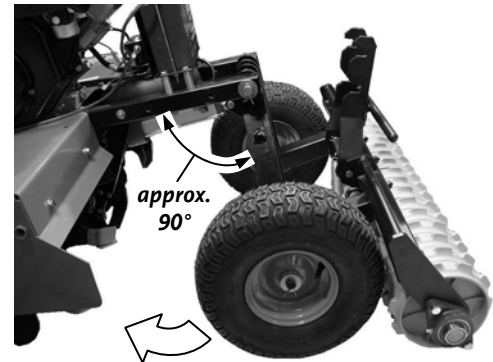

Figure 25
6. Use the ROTO-HOG Control Box to Raise the Tiller Tines to their uppermost position (**Figure 25**).